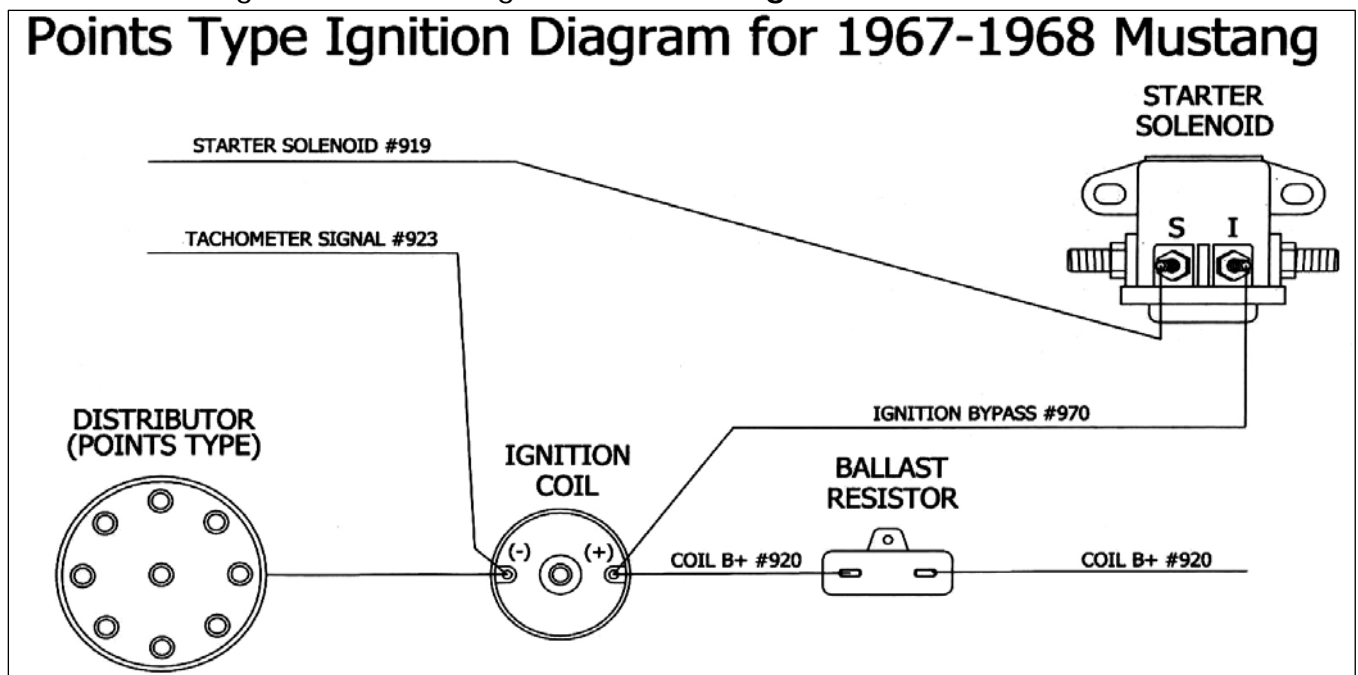

Figure 7-5 Points Type Ignition Diagram
7.3 Engine Section See Figure 7-5.
7.3.2 ENGINE SECTION wire #970 is used both on a point's type ignition system and a Duraspark II System. It is to be connected directly to the positive post on the ignition coil or the coil feed side on the ballast resistor. The other end is to be connected to the "I" terminal on the starter solenoid. **See Figure 7-5.**
7.3.3 Connect ENGINE SECTION wire #919 to the "S" terminal on the starter solenoid. If using a Tachometer, connect ENGINE SECTION wire #923 to the negative side of the ignition coil. **See Figure 7-5**